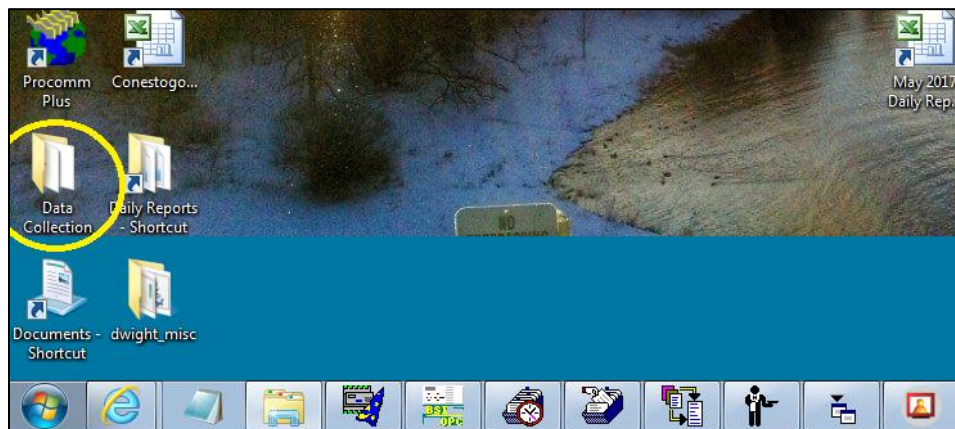

Fig 1
- Access the “**Data Collection file**” which is located on the desktop (*Fig 1*).